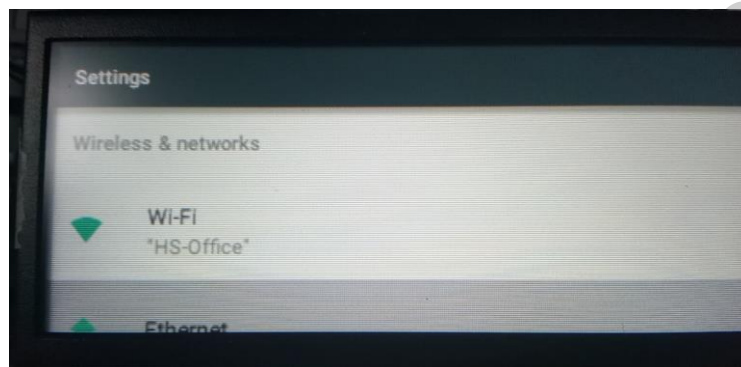

Figure 4-1 Network settings selection page
1. On the device's system desktop, tap **Settings** to open the Settings page, as shown in Figure 4-1.